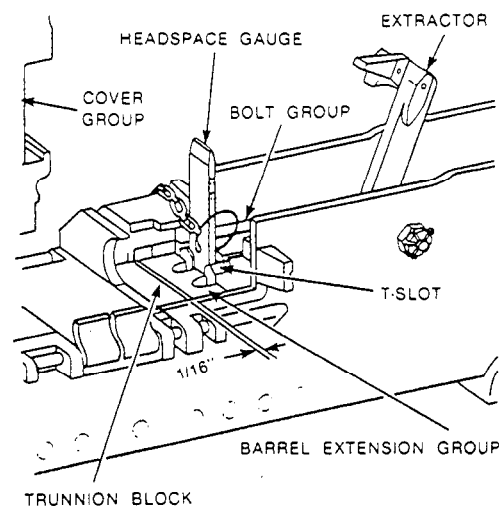

Figure 13-50.—Checking the headspace with the GO end of the headspace gauge.
4. Retract the bolt slightly, not exceeding $1/16$ inch (fig. 13-50). Recheck the headspace adjustment as before.